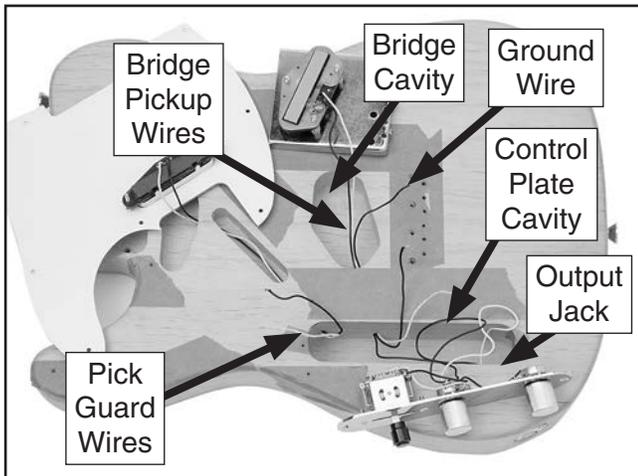

Figure 20. Wires threaded through body.
2. Thread the pick guard pickup and bridge pickup wires through the channels and holes into the control plate cavity, as shown in **Figure 20**.
3. Thread the ground wire through the hole in the control plate cavity into the bridge cavity (see **Figure 20**).